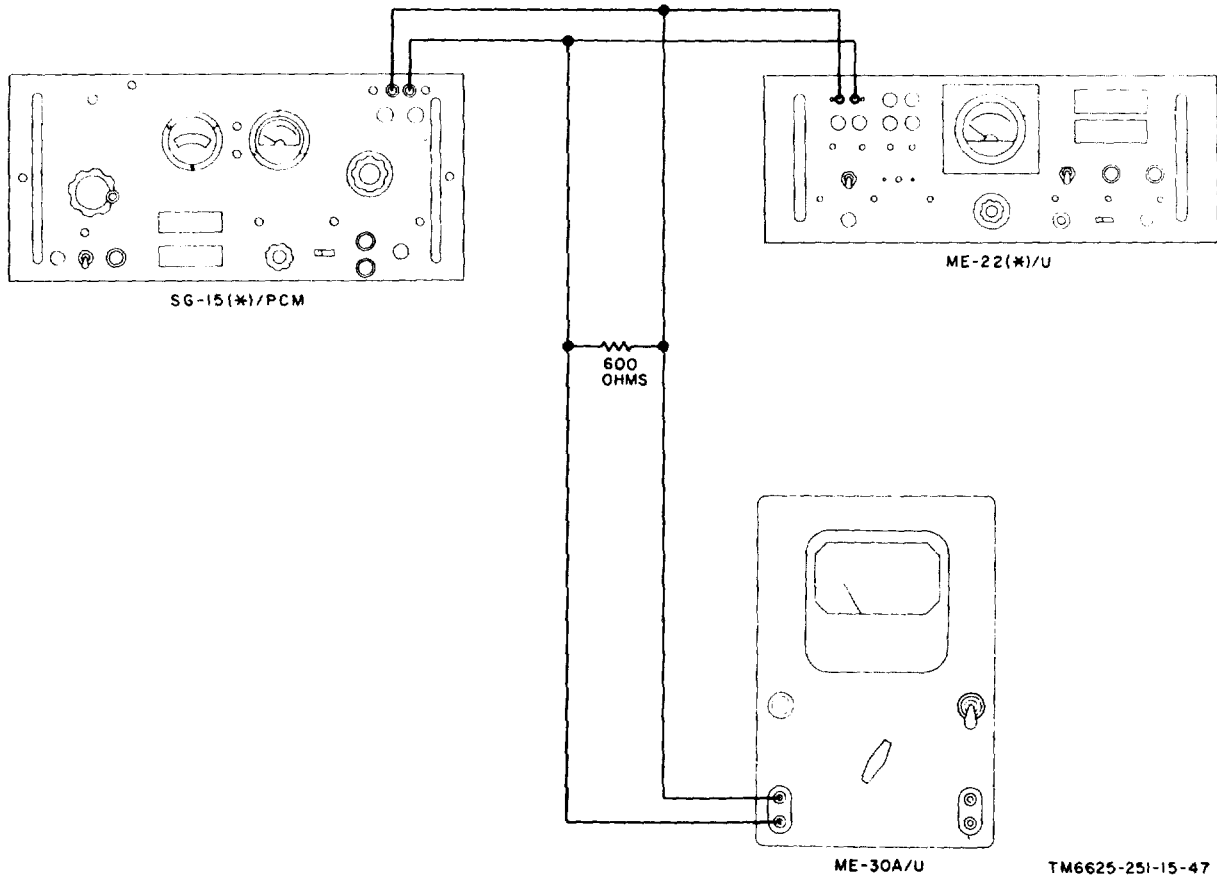

Figure 8-6. Calibration of ME-22(*)/PCM, test setup.
- (1) Signal Generator SG-15(*)/PCM.
- (2) Voltmeter, Meter ME30A/U.
- (3) One 600-ohm $\pm 5\%$ noninductive resistor.
b. Test Connections and Conditions. Turn on the equipment and let it warm up for 10 minutes. Connect the equipment as shown in figure 8-6.